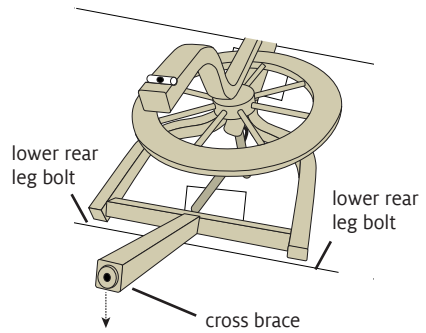

FIGURE 5: MOVE CROSS BRACE
7. Slightly loosen the lower rear leg bolts on both rear legs (Figure 5). Do not loosen or remove any other bolts or screws on the rear legs. Pivot the cross brace downward so it lies nearly flat.